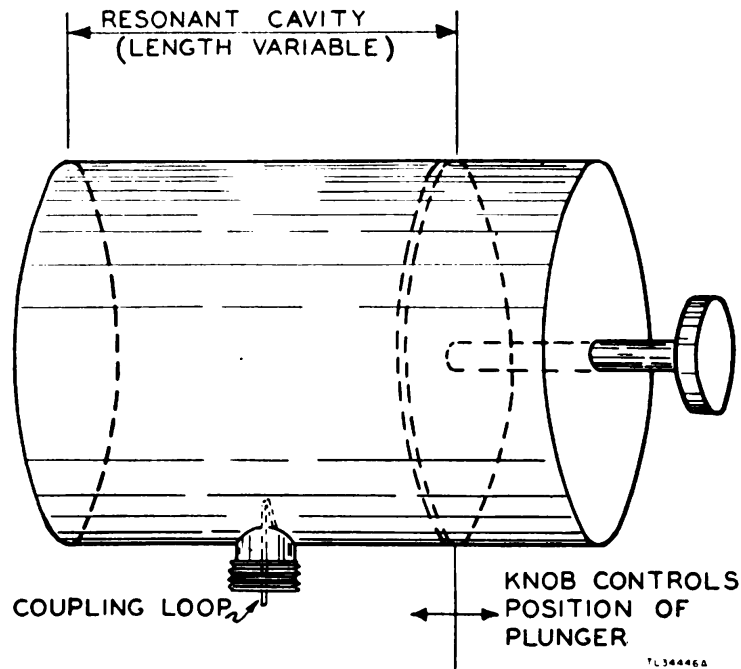

Figure 6. Outline drawing of echo box.
a. General. The echo box consists of a variable cylindrical cavity about 15 inches in diameter and 10 inches high (fig. 6). A movable piston or plunger, located inside the echo box, may be moved back and forth by means of a tuning knob to vary the length of the cavity as desired. The position of the plunger determines the resonant frequency of the cavity. A coupling loop parallel to the ends of the cavity is attached to the side of the box to couple, inductively, r-f energy into and out of the cavity.